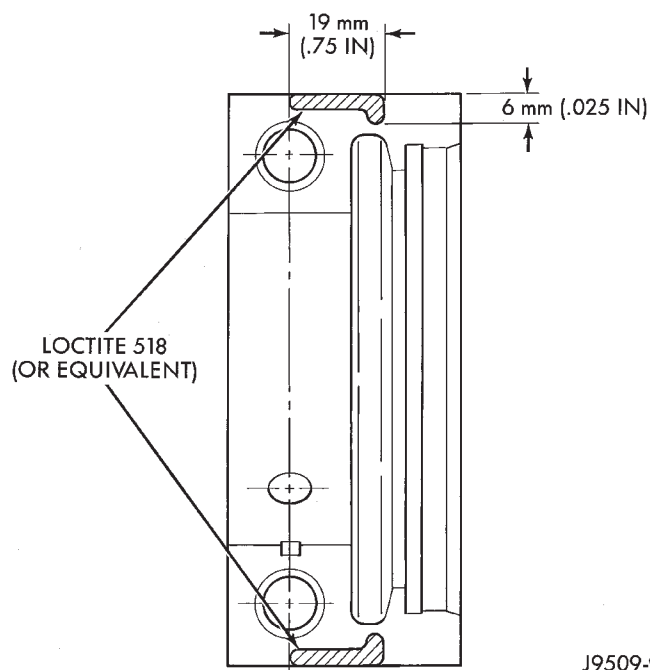

Fig. 55 Location of Loctite 518 (or equivalent)
(1) Lubricate the bearing surface of each insert with engine oil.
(2) Loosen all the main bearing caps. Install the main bearing upper inserts.
(3) Install the lower bearing inserts into the main bearing caps.
(4) Install the main bearing cap(s) and lower insert(s).
(5) Clean the rear main bearing cap (No.5) mating surfaces.
(6) Apply Loctite 518, or equivalent on the rear bearing cap (Fig. 55). The bead should be 3 mm (0.125 in) thick. **DO NOT** apply Loctite 518, or equivalent to the lip of the seal.